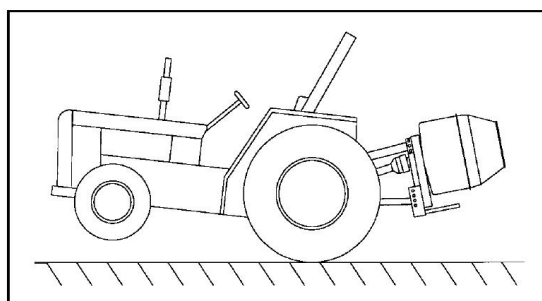

Figure 1. Tractor Stability
- A heavy load can cause instability in driving a tractor (Figure 1). Make sure the front of the tractor is properly counterbalanced with weights. Always drive slowly – especially around turns. An unstable tractor could steer badly and possibly tip over, causing injury or death.